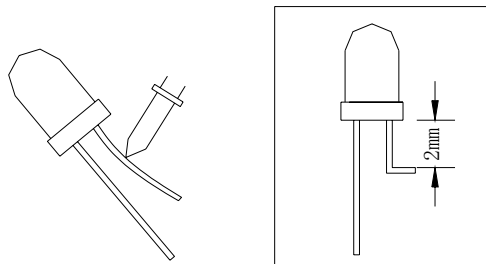

Fig. 7
1) The lead should be bent at a point located at least 2mm away from the package. Bending should be performed with base fixed means of a jig or pliers (Fig.7)